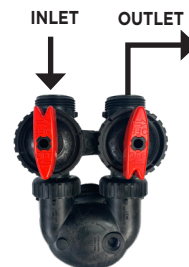

FIGURE 1
1. Connect inlet water supply to the inlet side of the bypass valve (FIG. 1) and hand tighten.